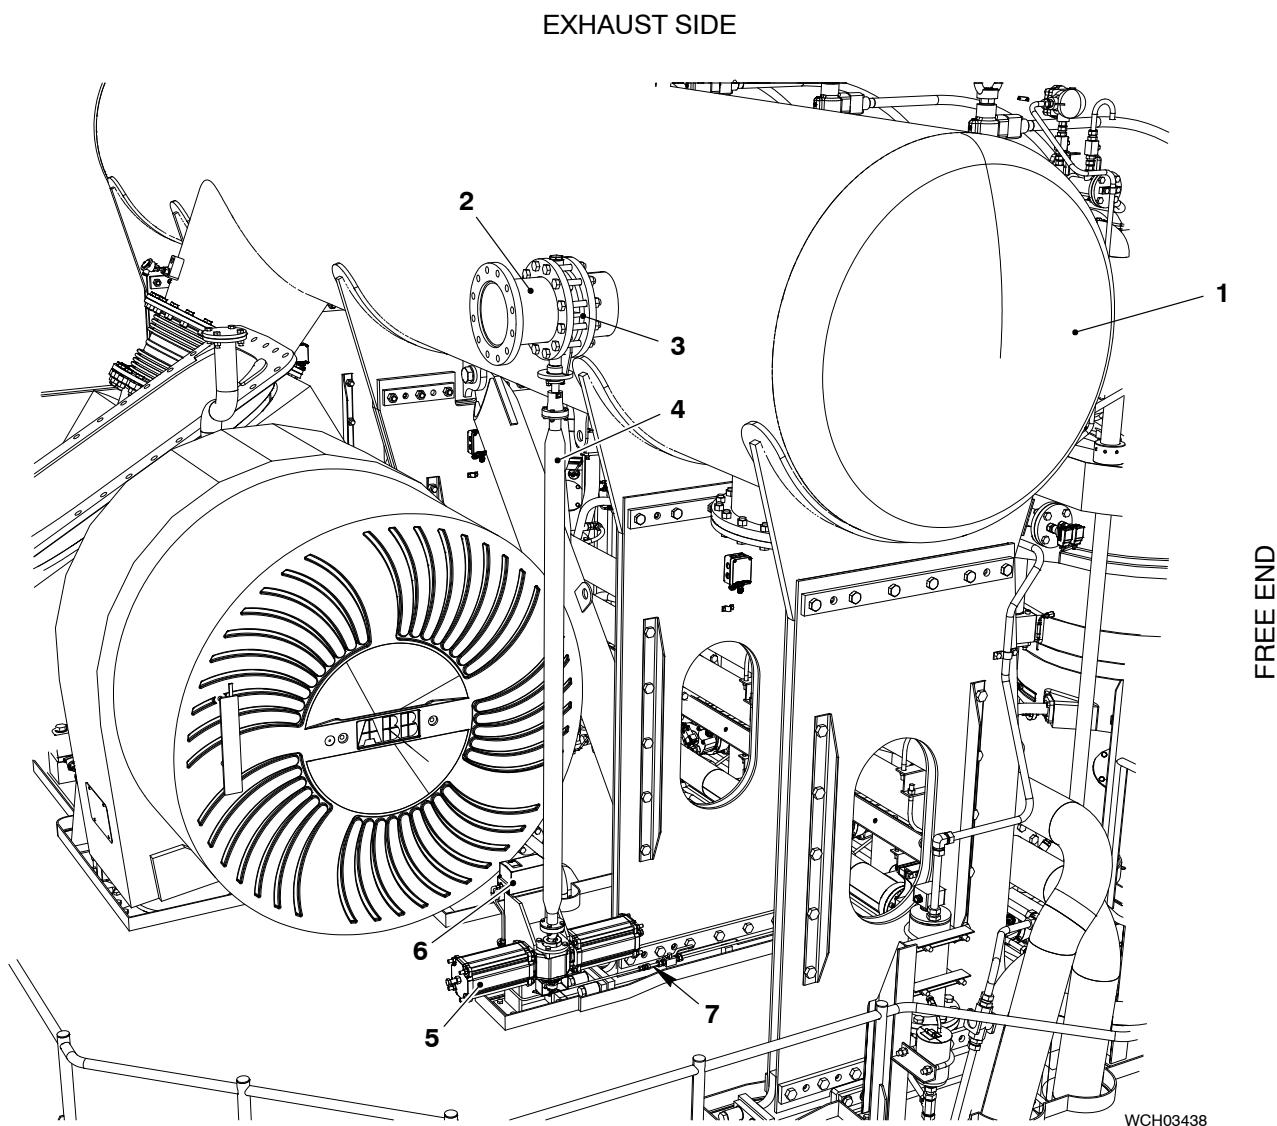

Fig. 2: Exhaust Waste Gate
The exhaust waste gate (EWG) is installed at the exhaust side of the engine (see Fig. 2).
When the ECS energizes the 3/2-way solenoid valve CV7077C (6, Fig. 2 and Fig. 3), control air is released. The control air flows through the control air pipe (10) to the actuator (5) and the butterfly valve (3) opens to the applicable position. The position sensor XI7077C sends data about the position of the butterfly valve (3) to the ECS.